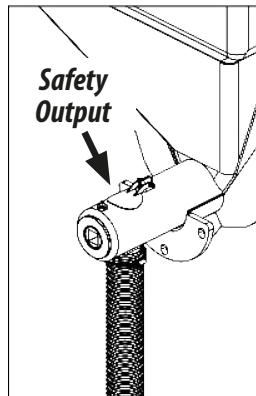

Figure 15
- 02 - The individual high flow distribution system has a safety outlet, because if the hose is clogged, when the fertilizer enters the doser, it will start to leak through this safety outlet, guaranteeing the functioning of the system without damaging it, as shown in figure 15.